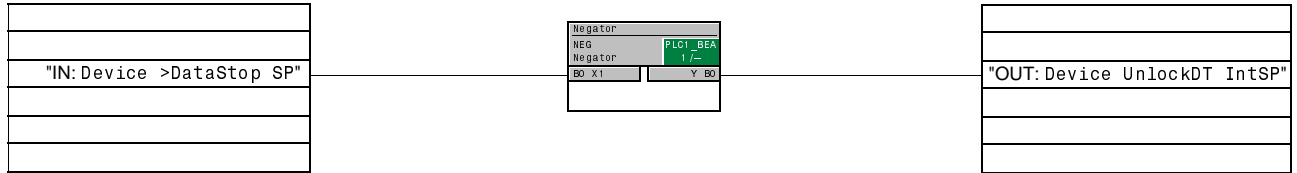
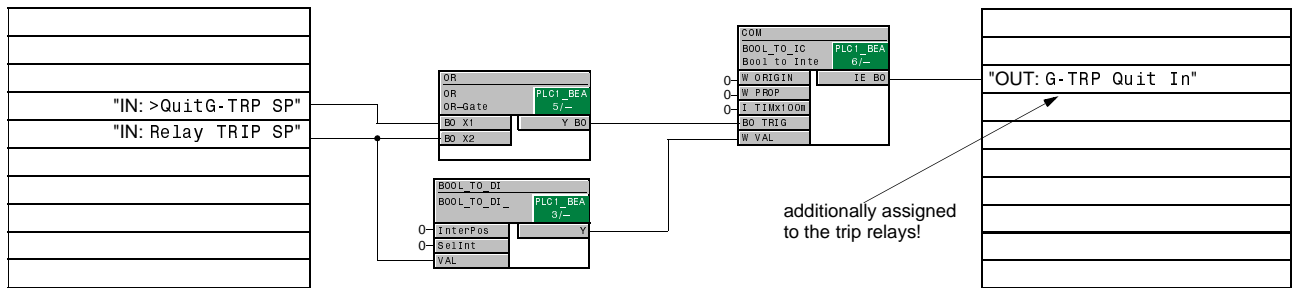

Figure A-28 CFC-chart for transmission block and testing mode
Figure A-29 CFC chart for reclosure lockout
7UT6 provides worksheets with preset CFC-charts. Figure A-28 shows a chart which changes binary input ">DataStop SP" from single point indication (SP) to internal single point indication (IntSP). According to Figure A-29 an reclosure interlocking will be produced. It interlocks the closure of the circuit breaker after tripping of the device until manual acknowledgement.